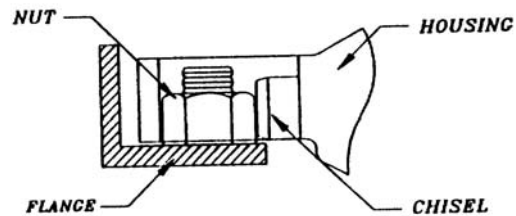

Figure 11
3. Extend the chisel slowly until it makes contact with the nut face. Check that the chisel is resting squarely on the center of the nut flat. See Figure 11.